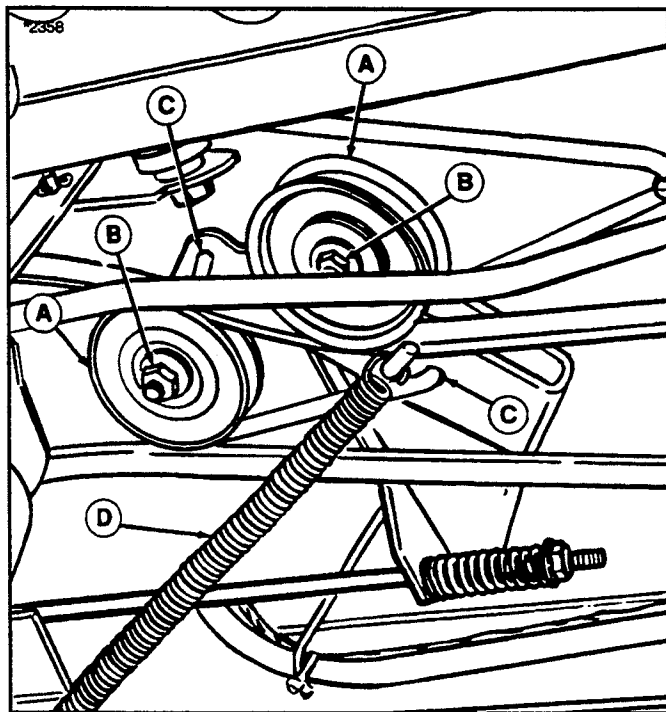

Figure 41. Drive Belt Idler Pulley - Hydro Models
3. See figure 41. To remove the belt from the idler pulley (A), loosen flange whiz nuts (B). Slip belt from between belt stop (C) and idler bracket.
4. Release the parking brake. Rotate idler pulley to relieve spring tension and remove spring (D, figure 41)
10. Re-install idler pulley spring (D, figure 41) to frame with new belt routed between spring and bottom of frame.